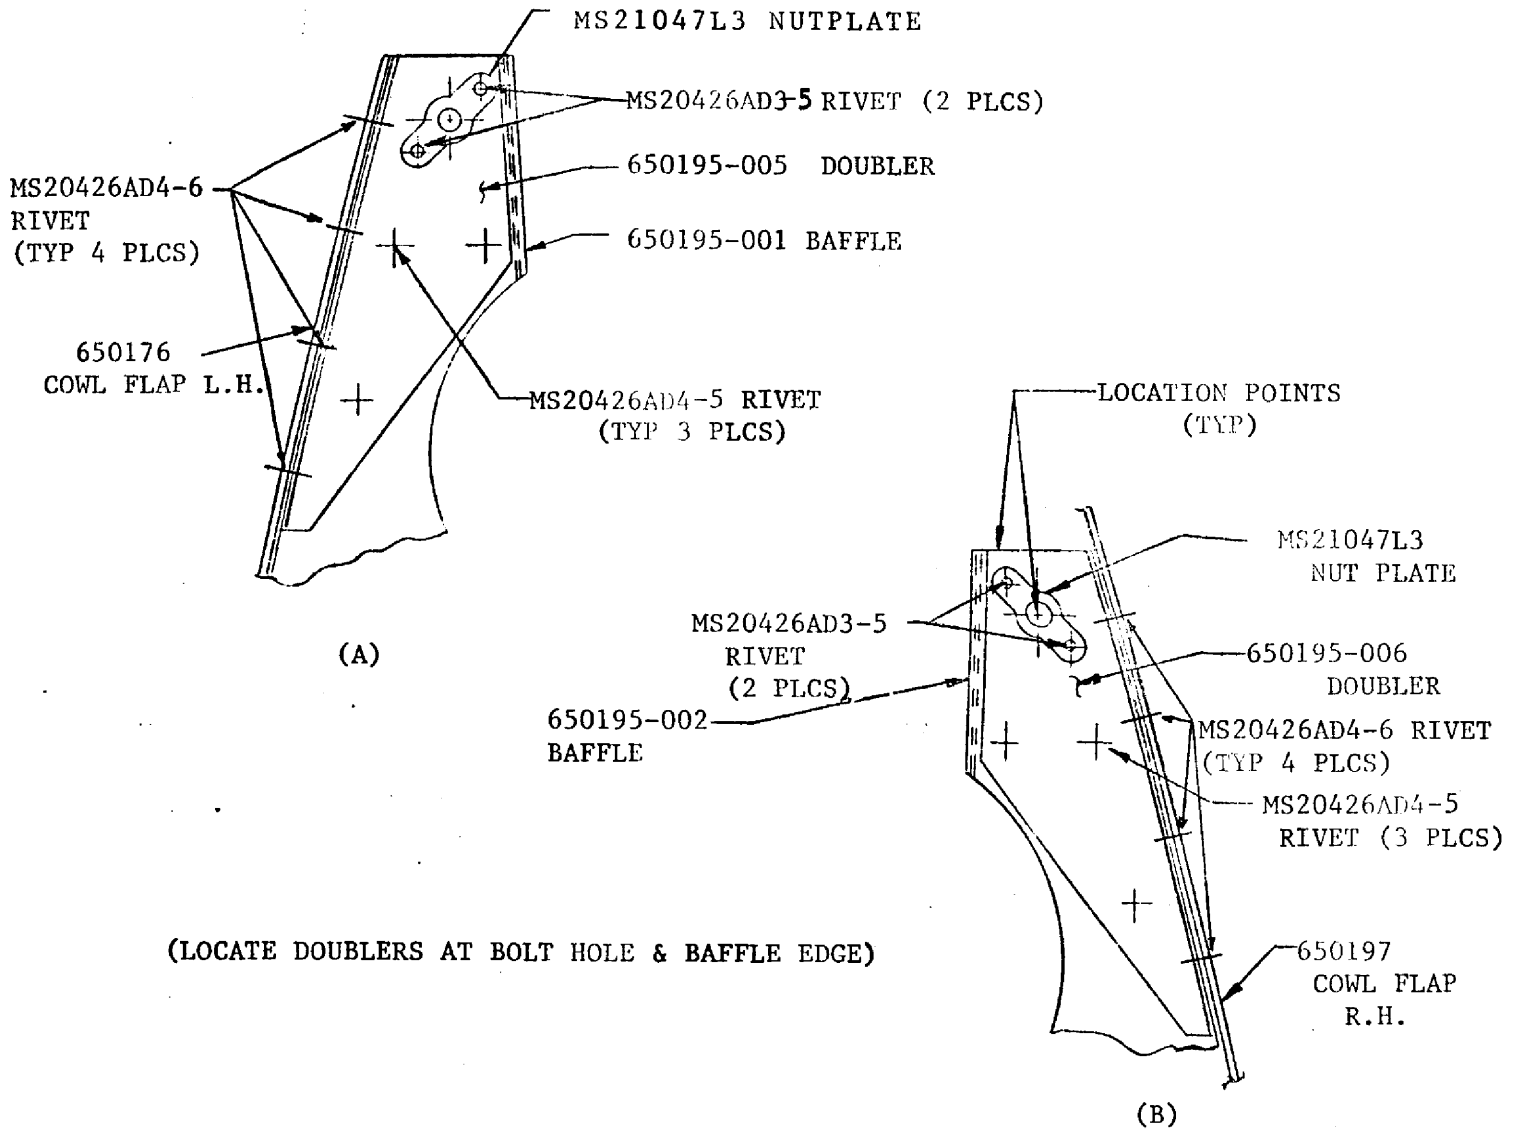

FIGURE M20-231-1
NOTE: Countersink all holes on lower flange; doubler must lay flat on dimpled area. Locate doubler, P/N 650195-5, per Figure M20-231-1(A) and drill holes to match in doubler, baffle and flange. Install doubler using MS 20426AD4 rivets. Install new nut plate, MS 21047L3, using MS 20426AD3-5 rivets. Inspect cowl flap to see that there are also doublers at aft end of each baffle. There should be a doubler, P/N 650195-3, on the inboard baffle and, P/N 650196-3, doubler on outboard baffle, 650196-001, refer to Figure M20-231-2(A), (B), and (C). If not installed, order Opt. Kit SB M20-231-002.
4. R.H. cowl flap assy, P/N 650197-502 - Remove the MS 21047L3 nut plate from inboard baffle. Locate, P/N 650195-6, doubler per Figure M20-231-1(B) & drill holes to match in doubler, baffle and flange. Install doubler using MS 20426AD4 rivets. Install new nut plate, MS 21047L3, using MS 20426AD3-5 rivets. Inspect cowl flap to see that the doubler, P/N 650196-4, is installed on aft end of outboard baffle, 650196-2, refer to Figure M20-231-3(A) & (B). If not installed, order Opt. Kit SB M20-231-002.